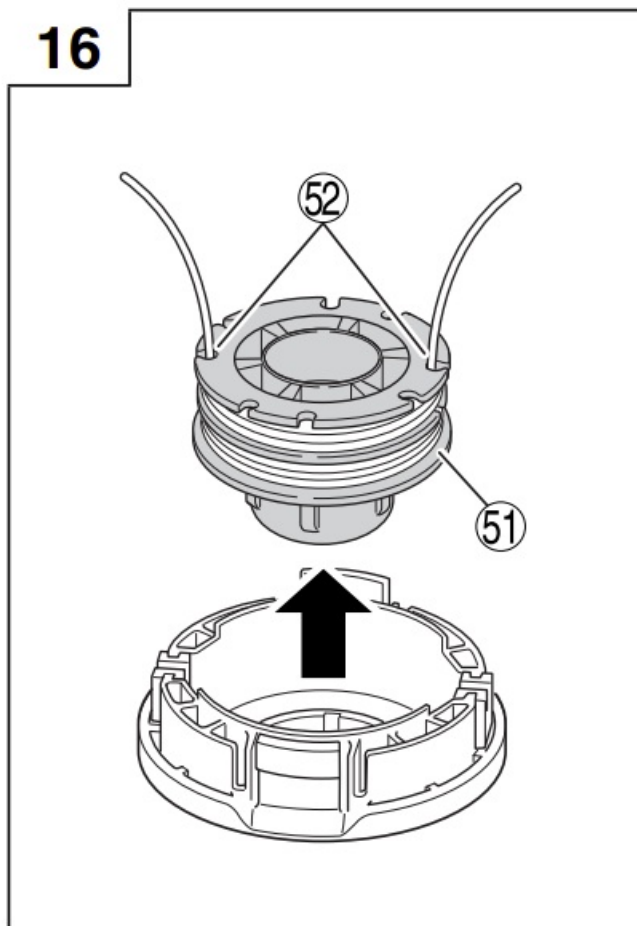

Fig. 16
3. Remove the reel from the case. (Fig. 16)